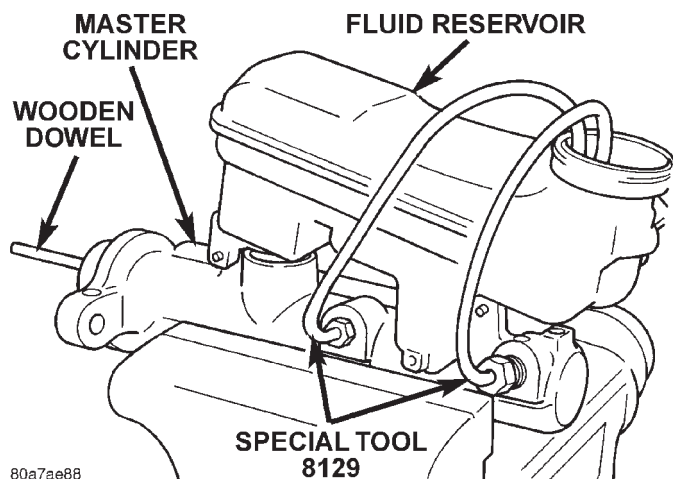

Fig. 29 Bleeding Master Cylinder
(1) Clamp the master cylinder in a vise (Fig. 29).
(2) Attach Bleeding Tubes, Special Tool 8129 to master cylinder (Fig. 29). Position the bleed tubes in the fluid reservoir of the master cylinder so the outlets are below the surface of the brake fluid when the reservoir is filled to the proper level.
(3) Fill reservoir with brake fluid conforming to DOT 3 specifications such as Mopar or Equivalent.
(4) Using a wooden dowel per (Fig. 29). Depress master cylinder pistons slowly, and then allow pis-